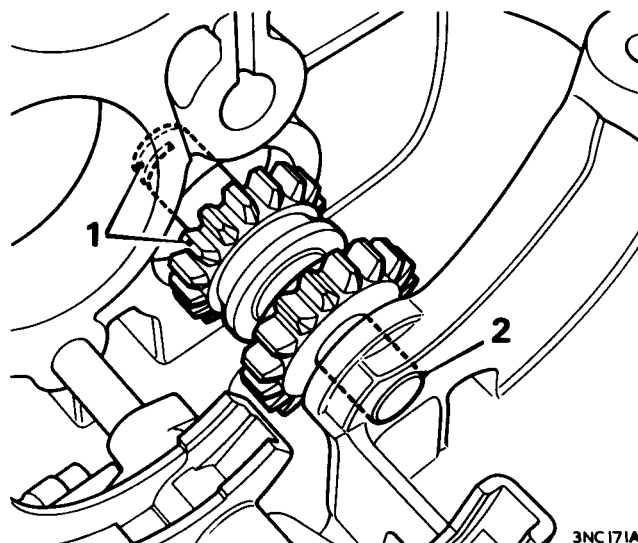

Fig. F.17
34. Withdraw the reverse idler shaft and gear, Fig. F.17.
59. Refit the reverse idler gear into engagement with the reverse bellcrank lever pivot and refit the shaft, Fig. F.17.